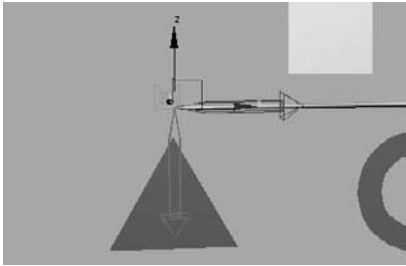

Figure 2.44
2. At the top of the Hierarchy panel, make sure the Pivot button is active and then click the Affect Pivot Only button to activate it (the button will change color). This will tell Max to move only the pivot point of the currently selected object and not to move the entire object. Your gizmo icon will change, as shown in Figure 2.44.